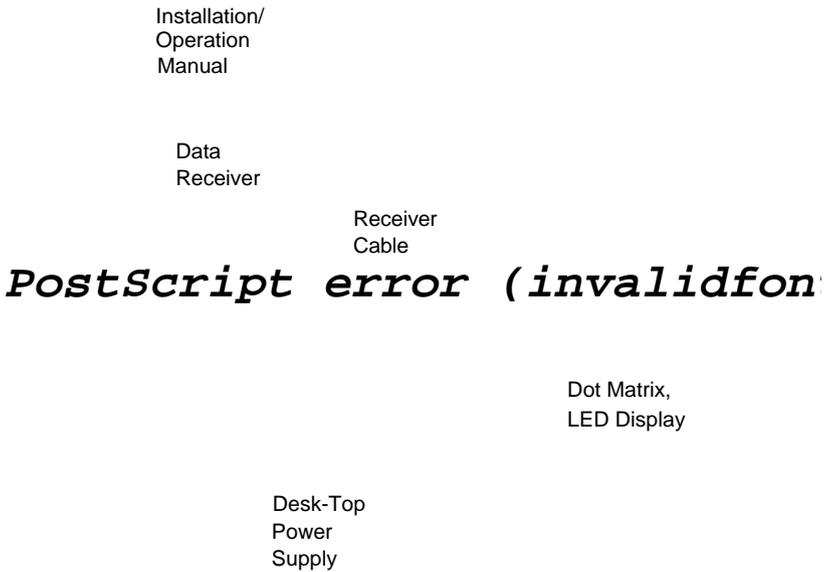

Figure 2-1. Small AlphaLert Sign Components
The single-color or multi-color versions of the small AlphaLert sign consist of the following components as shown in Figure 2-1.
Both large and small AlphaLert signs are shipped in single container boxes. The contents of each box, with the exception of the mounting hardware, are shown in Figures 2-1 and 2-2. After unpacking, complete the following:
1. Compare all items shipped with Figures 2-1 and 2-2 and examine for damaged or missing parts. Retain shipping materials should warranty service be required.